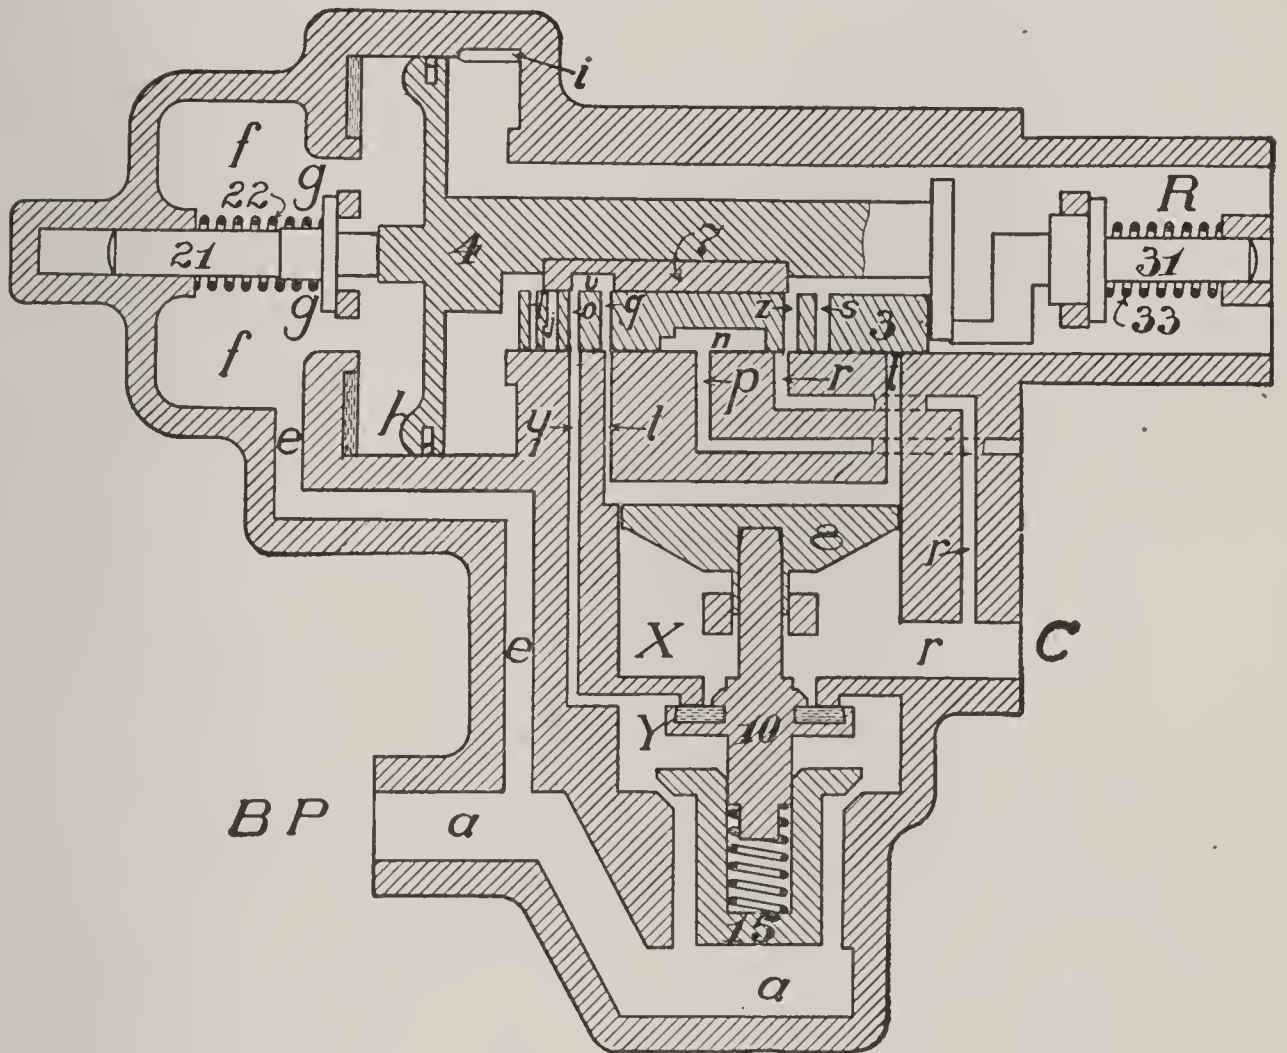
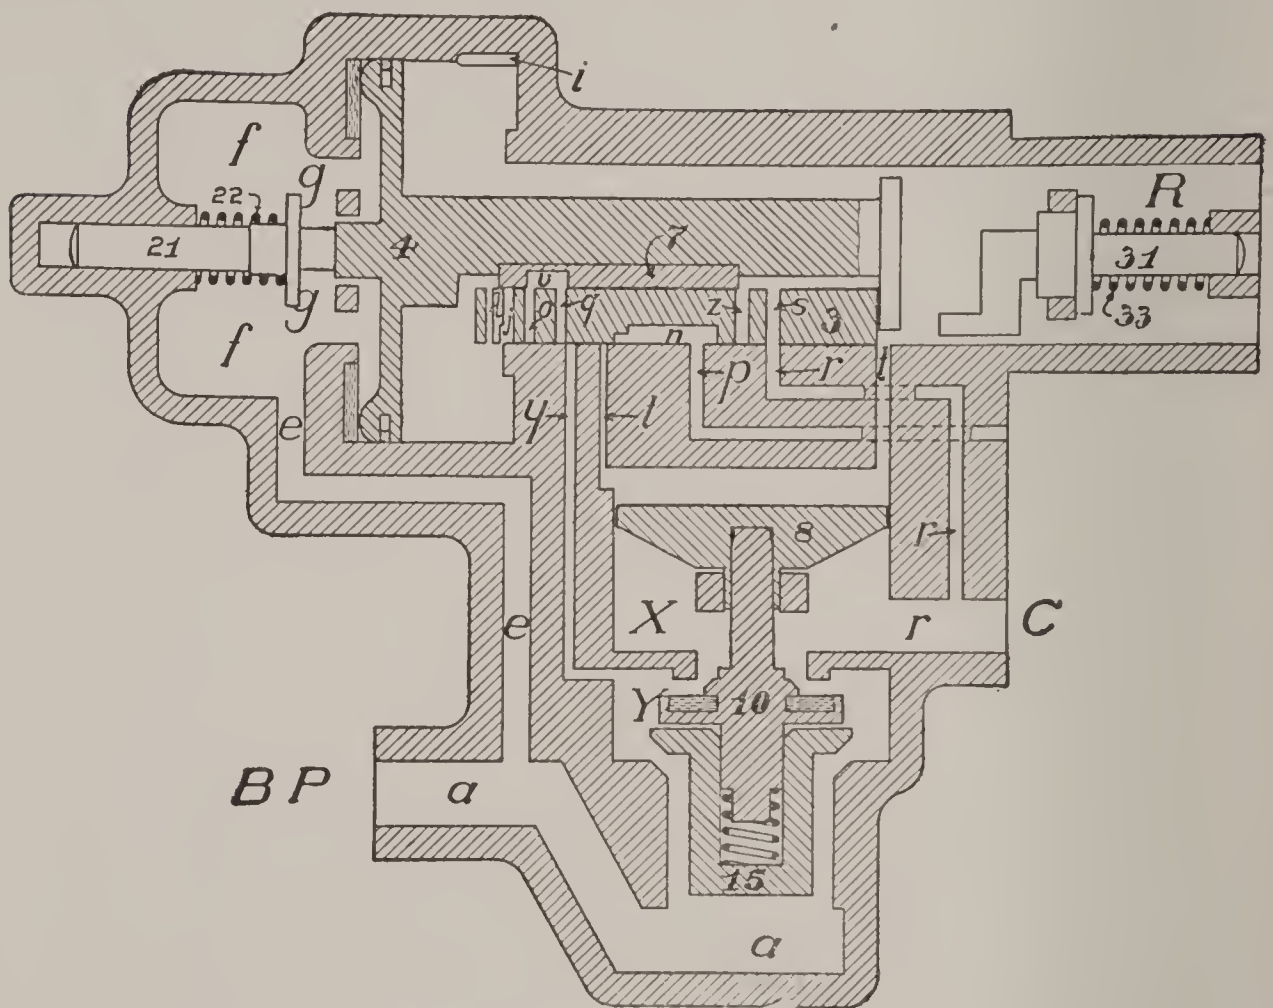

Fig. 9.
Fig. 12.
**Quick Service Application.** To make a service application of the brakes air pressure is gradually reduced in the brake pipe and thereby in chamber *h*. As soon as the remaining pressure in the auxiliary reservoir and chamber R becomes enough greater than that in chamber *h* to overcome the friction of the piston 4 and graduating valve 7, these two move to the left until the shoulder on the end of the piston stem strikes against the right-hand end of the slide-valve, when it also is moved to the left until the piston strikes the graduating stem 21, which is held in its place by the compression of the graduating spring 22. The parts of the valve are then in the position shown in Fig. 9. The first movement of the graduating valve closes the feed groove *i*, preventing the air from feeding back into the brake pipe from the auxiliary reservoir, and also opens the upper end of port *z* in the slide-valve, while the movement of the latter closes the
application, when only a light application was intended. But this is automatically prevented by the triple valve itself. From Fig. 9 it will be noted that in the quick service position port *s* in the slide-valve and port *r* in the seat do not fully register. Nevertheless the opening is sufficient to allow the air to flow from the auxiliary reservoir to the brake cylinder with sufficient rapidity to reduce the pressure in the auxiliary reservoir as fast as the pressure is reducing in the brake pipe, when the train is of considerable length. But if the brake pipe reduction is more rapid than that of the auxiliary, the difference in pressures on the two sides of piston 4 soon becomes sufficient to compress the graduating spring slightly and move the slide-valve to the position shown in Fig. 12. In this position quick service port *y* is closed, so that no air flows from the brake pipe to the brake cylinder.
**Emergency Position.** Emergency position is the same with the K triple valve as with the old type. Quick action is caused by a sudden and considerable reduction in brake pipe pressure, no matter how caused. This fall in brake pipe pressure causes the difference in pressures on the two sides of piston 4 to increase very rapidly, so that the friction of the piston, slide-valve and graduating valve is quickly and easily overcome, and they move to the left with such force that when the piston strikes the graduating stem it compresses graduating spring 22, forcing back the stem and spring until the piston seats firmly against gasket 23, as shown in Fig. 12. The movement of the slide-valve opens port *t* in the slide-valve seat and allows auxiliary reservoir pressure to flow to the top of emergency piston 8, forcing the latter downward and opening emergency valve 10. The pressure in chamber Y being instantly relieved allows brake pipe air to raise the check-valve 15 and flow rapidly through chambers Y and X to the brake cylinder, until brake cylinder and brake pipe pressures equalize, when